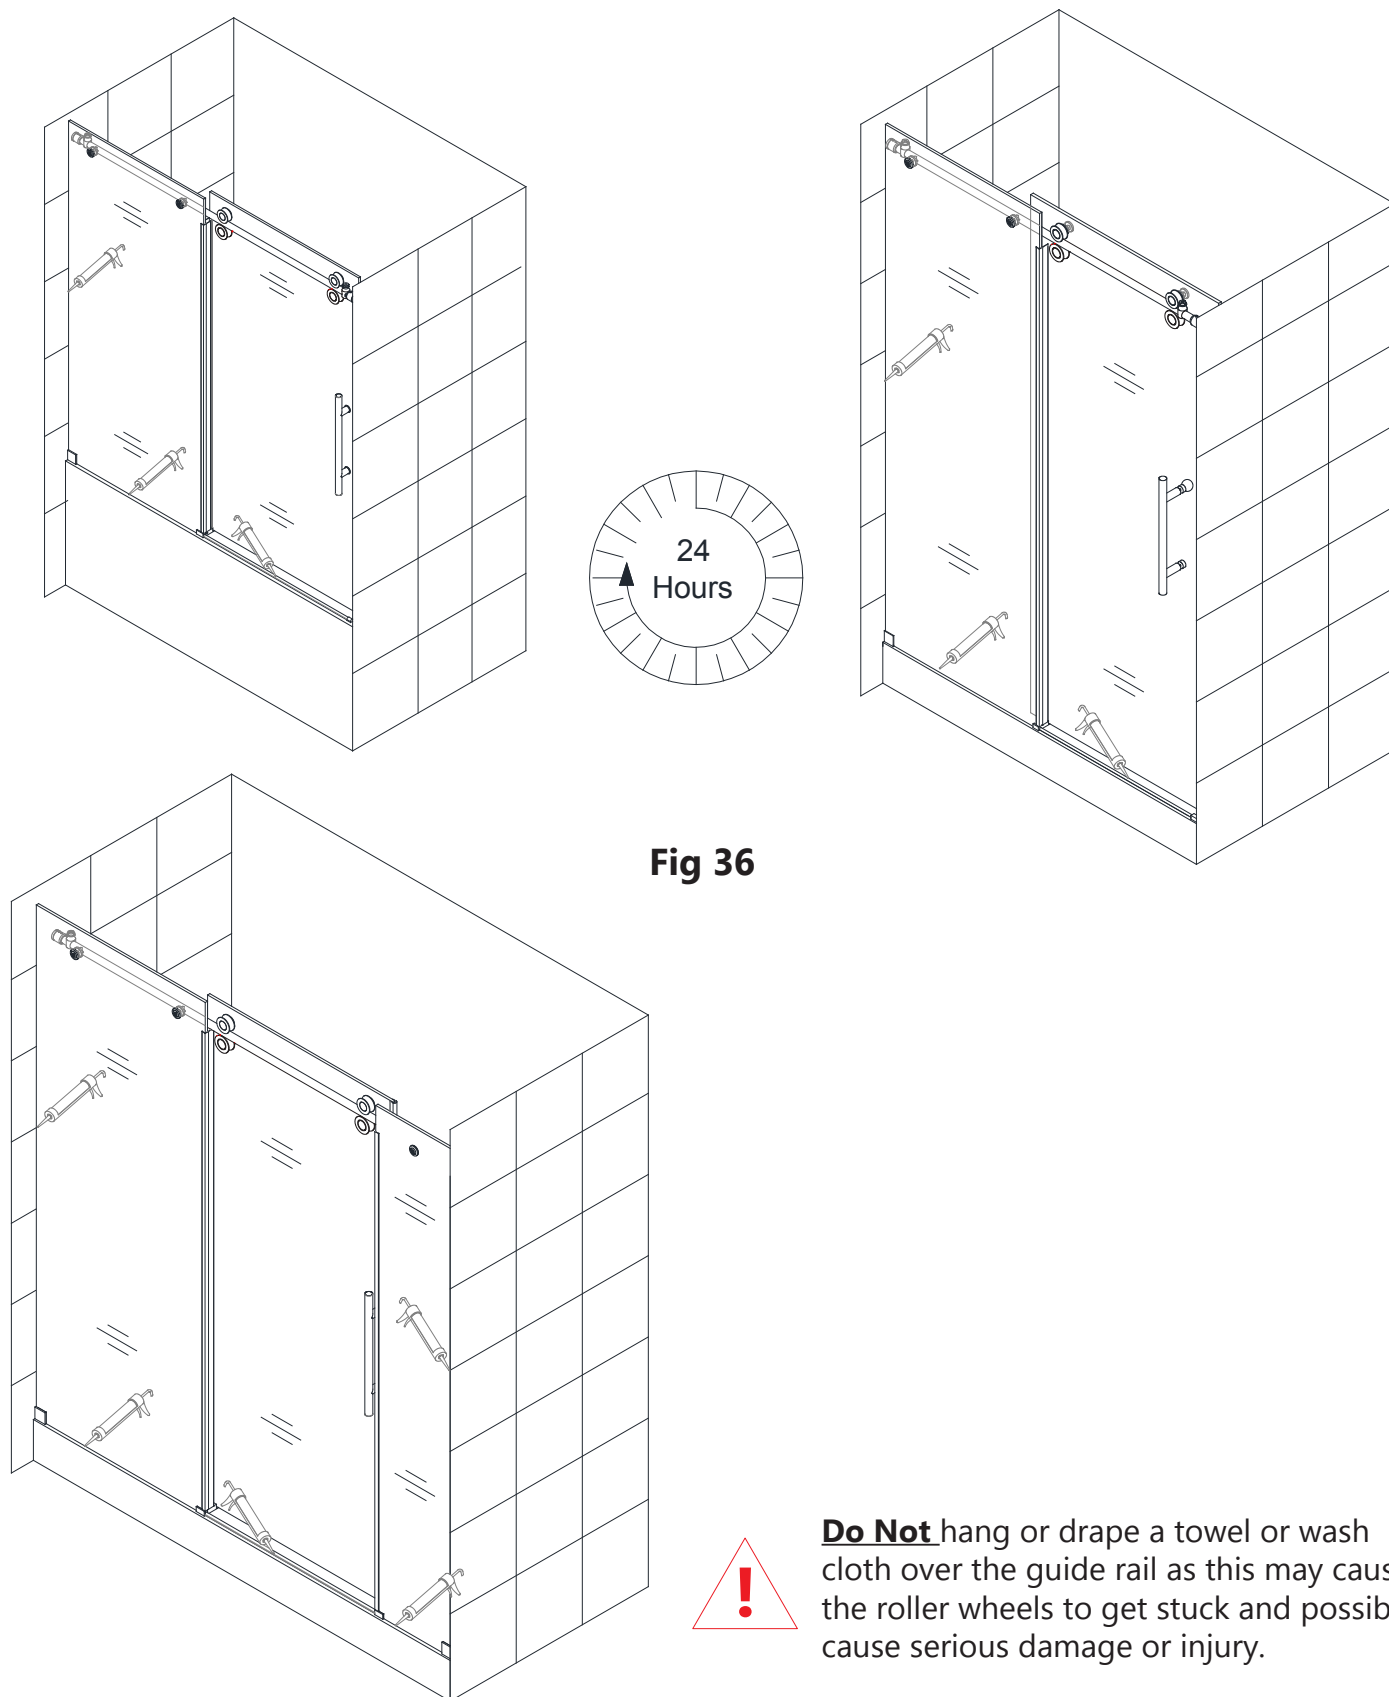

Fig 36
33. Apply a good quality mildew-resistant silicone along the interior perimeter where the glass meets the wall and threshold and also along the **Anti-Splash Guard (#15)**. (**Fig 36**)